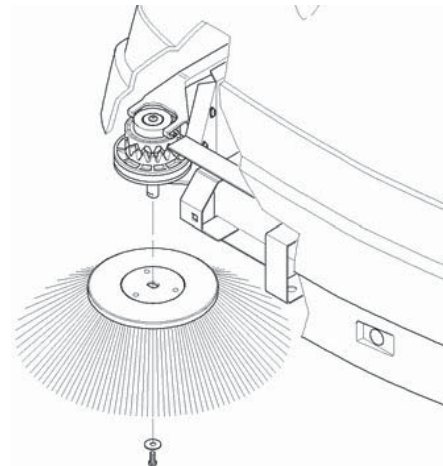

Fig. 2
- Place the brush on the shaft (Fig. 2).